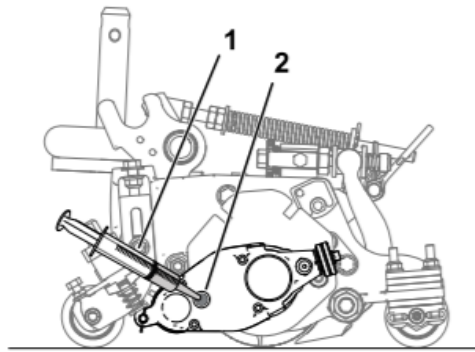

Figure 2
11. Use a syringe (Part No. 137-0872) to fill the drive box with 80-90W oil. Fill with 50cc for 5-inch reels or 90 cc for 7-inch reels. (Figure 2)